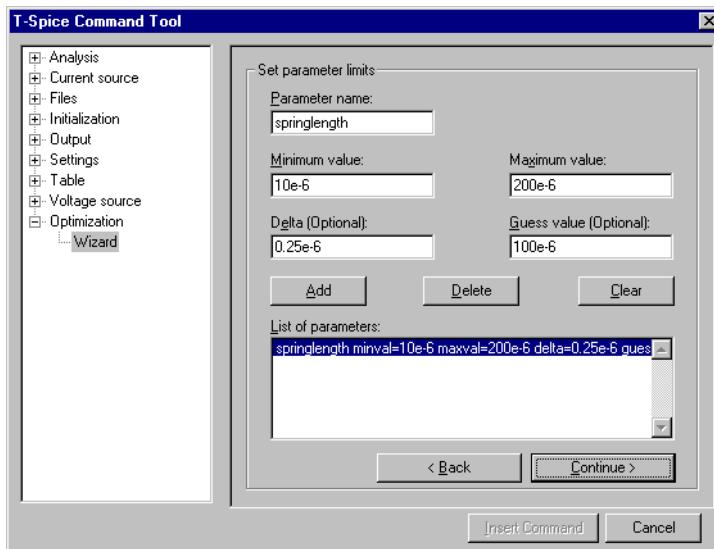

Figure 96: Customizing the parameters limits
- Set the **Parameter name** to ***springlength***, **Minimum value** to **10e-6**, **Maximum value** to **200e-6**, **Delta (Optional)** to **0.25e-6**, and **Guess value (Optional)** to **100e-6** (Figure 96). Click **Add** to add the values to the **List of parameters**.